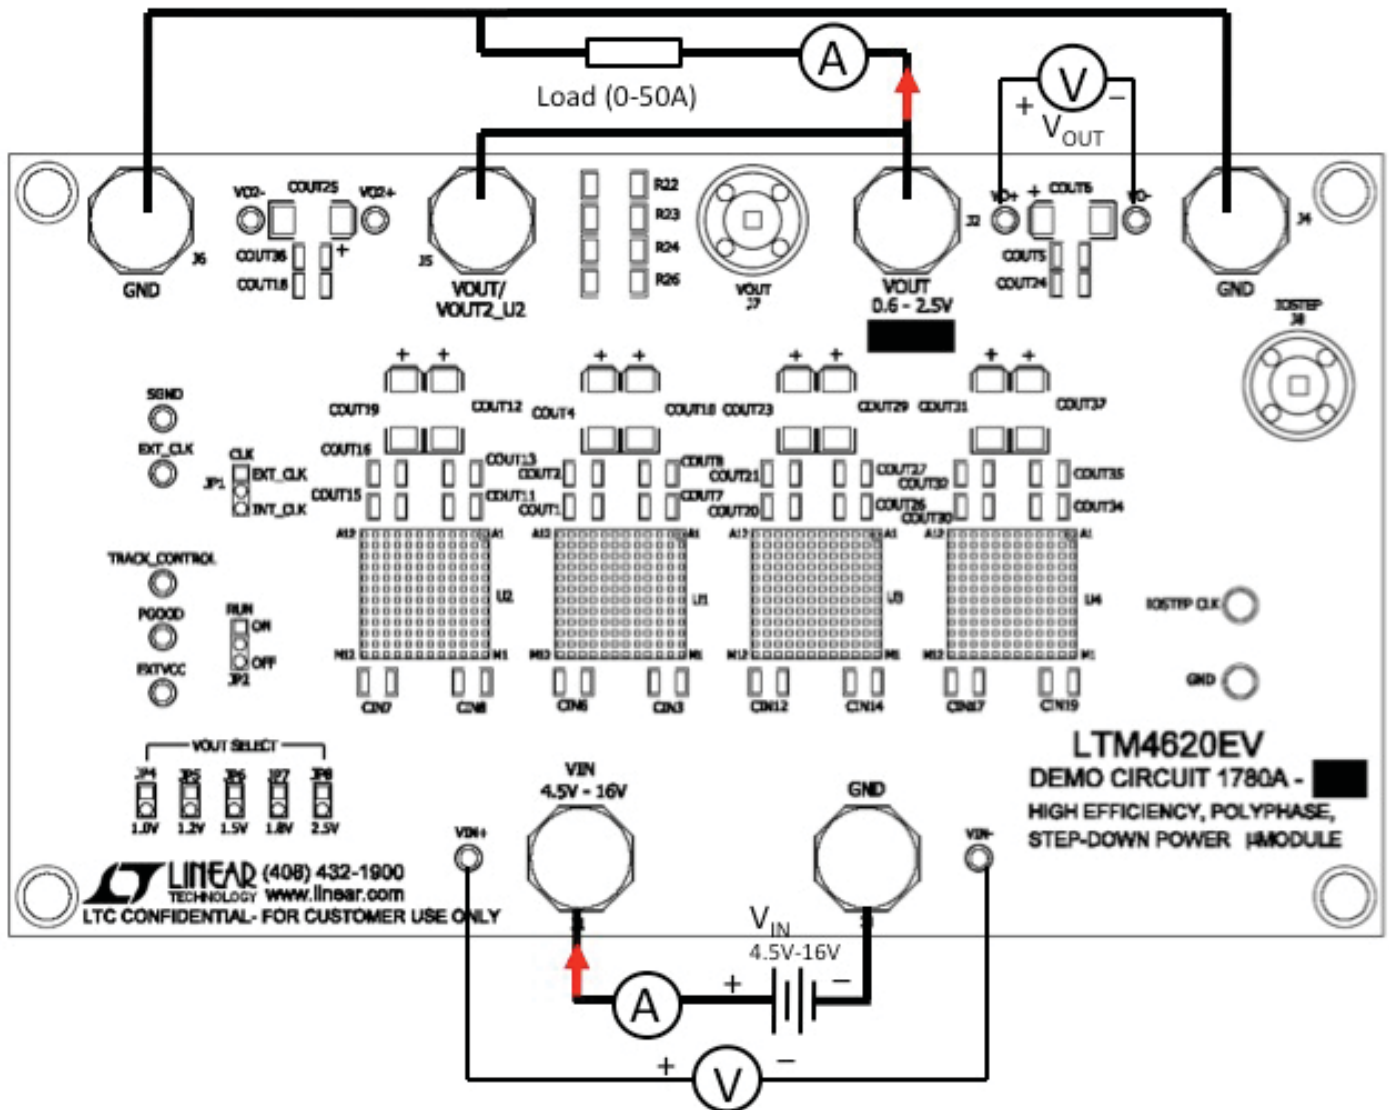

Figure 2. Test Setup of DC1780A-A
Demonstration circuit DC1780A-A is easy to set up to evaluate the performance of PolyPhase operation of the LTM4620EV. Due to the high input/output current, select a proper input supply/load/cable which can sustain the full load operation. Please refer to Figure 2 for proper measurement setup and follow the procedure below:
- With power off, connect the input power supply, load and meters as shown in Figure 2. Preset the load to 0A and  $V_{IN}$  supply to 12V.